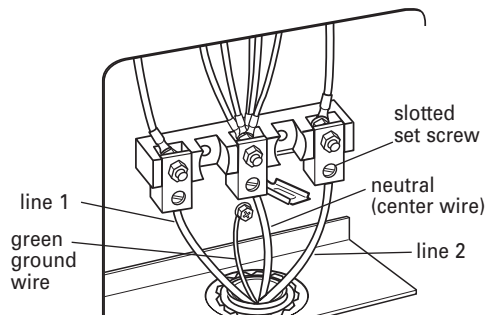

Figure 2
11. Connect the green ground wire to the range using the ground-link screw and cup washer. The ground wire must be attached first and must not contact any other terminal. See Figure 2.
12. Loosen (do not remove) the 3 slotted set screws. Insert the neutral (white) wire into the hole at the bottom of the center position lug (attached to center terminal screw black terminal block). See Figure 2.
For 8 gauge copper wire, tighten to 25 in/lbs of torque, and for 6 gauge aluminum wire, tighten to 35 in/lbs of torque to make a proper electrical connection. See Figure 2.